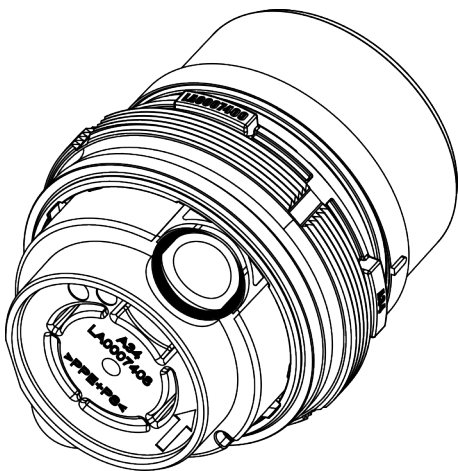

Figure 11. Gasket A34
2. Check that the O-ring is correctly seated on the outlet side of the flow diverter and correct if necessary (Fig. 11).